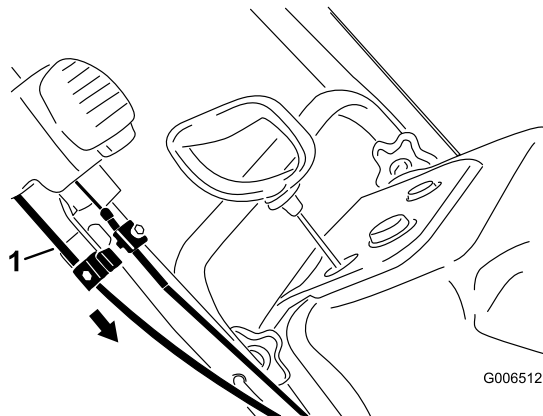

Figure 42
4. Hold the discharge chute in the straight-ahead position, pull the lower cable casing downward until you remove the slack in the cable, and tighten the screw on the lower cable clamp securely (Figure 42).